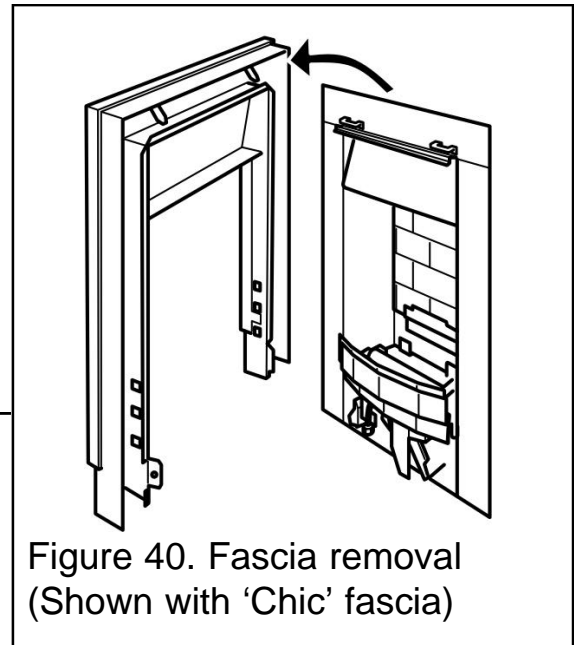

Figure 40. Fascia removal (Shown with 'Chic' fascia)
4. **Make sure that the control linking bar has been detached (See point 2).** Carefully lift the fascia unit upward to clear the upper retaining brackets on the hotbox (See figure 40). Pull the fascia clear and place carefully aside.